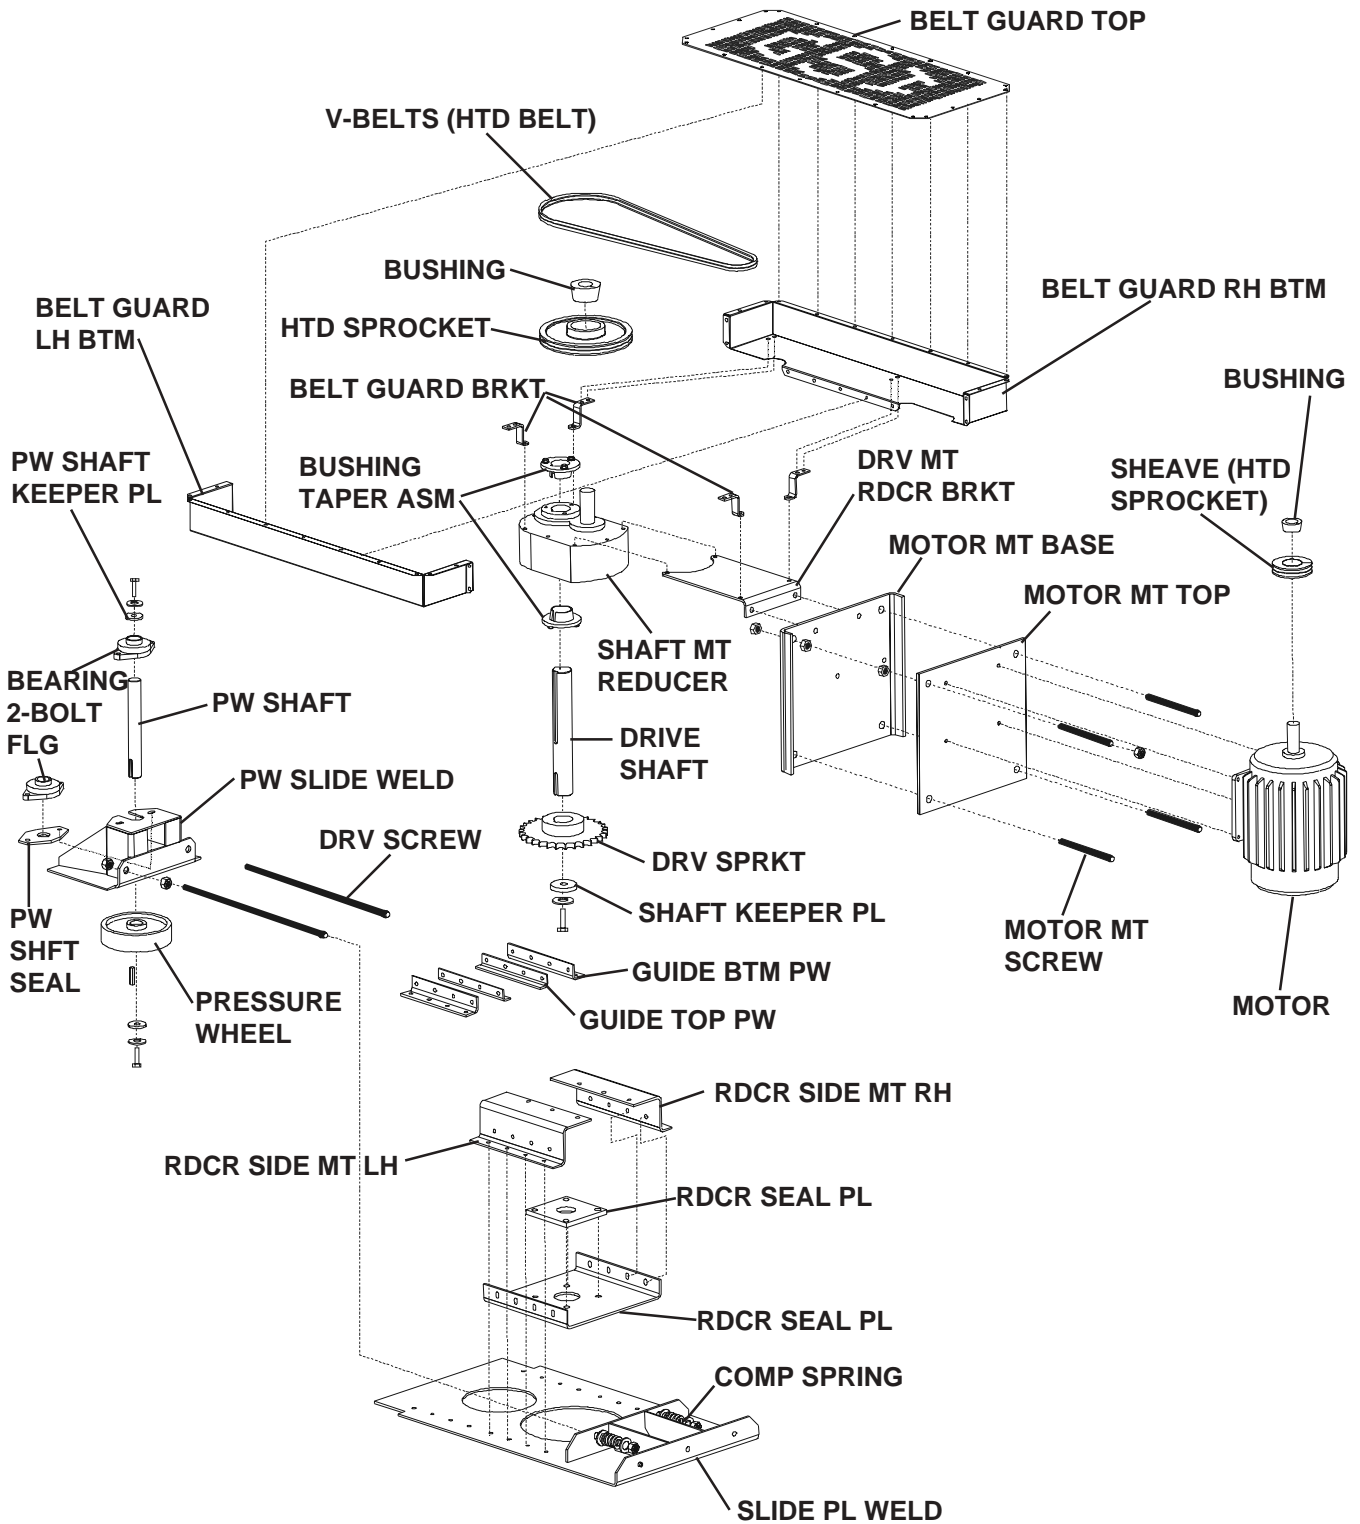

Fig. 11-1
4. Before setting the Pressure Wheel Assembly in place, install the **GUIDE BTM PW** on each side of the opening using 3/8" x 1-1/4" Gr. 5 Bolts with the Flanged Nuts on the top. Set the Pressure Wheel into place and tighten the Guide bolts. Using the same bolts, install the **GUIDE TOP PW** angles and tighten them. **Verify that the Pressure Wheel slides freely after the Guides are tightened.** (See Fig. 11-1)
5. Locate the **REDUCER**, **SHAFT MT**, the **RDCR SEAL PL**, the Left and Right **RDCR SIDE MT(s)**, the **RDCR MT CROSS** and the **RDCR PL SEAL**. Note that the Input Shaft of the Reducer is toward the outside of the unit. Install the Left and Right Reducer Side Mounts on the sides of the Drive using the existing hardware. Where utilized, a **BELT GUARD BRKT** mounts on each side of the Drive as well. The Mount Cross part bolts to each Side Mount. **Move the breather on the Drive to the Input Shaft side.** (See Fig. 11-1)